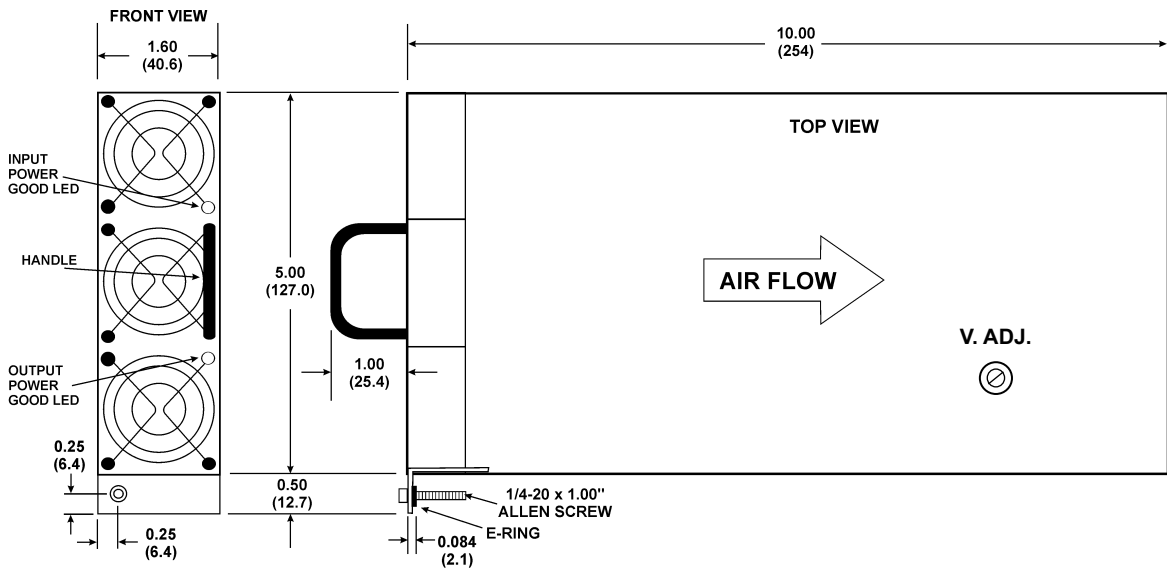

Figure 3. TPCMQ48/TPCMQ24 Series Module Mechanical Dimensions.
The mechanical dimensions of the TPCMQ Series converter modules and the rack/shelves are shown in Fig. 3.
- 12.3 Output Voltage.** The output voltage of each converter module is factory set to its specified voltage. This voltage can be adjusted in two ways. First, there is a V adjust potentiometer at the top of the module case. See Figure 3. This adjustment has a range of approximately $\pm 5\%$ for the TPCMQ48 and $\pm 4\%$ for the TPCMQ24.